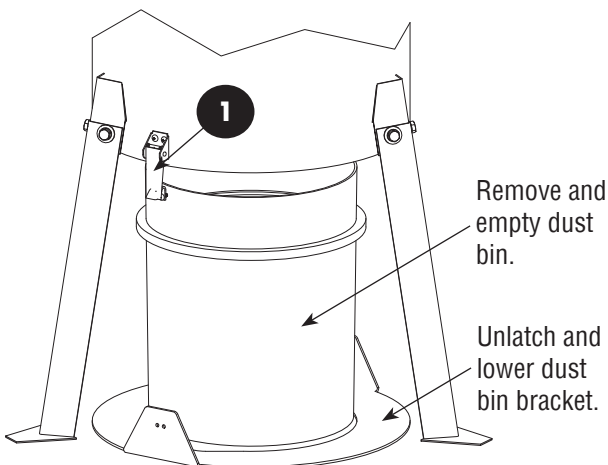

FIGURE 8: (1) Dust Bin Latch
4.1.2 | Turn off the exhauster and unlatch the bin from the dust collector, as shown in **Figure 8**.